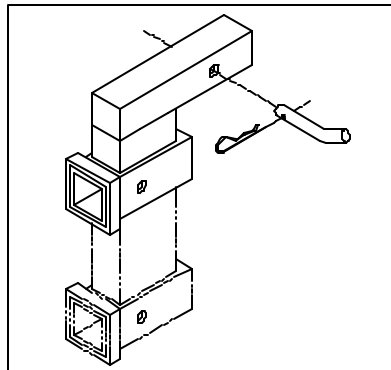

Figure 1
The correct height can be obtained by using a drop receiver. (Figure 1) The drop receiver can be positioned with the receiver hanging down or turned up, what ever is needed for a level connection. Two (2), four (4), six (6), eight (8) and ten (10) in drop receivers are available.